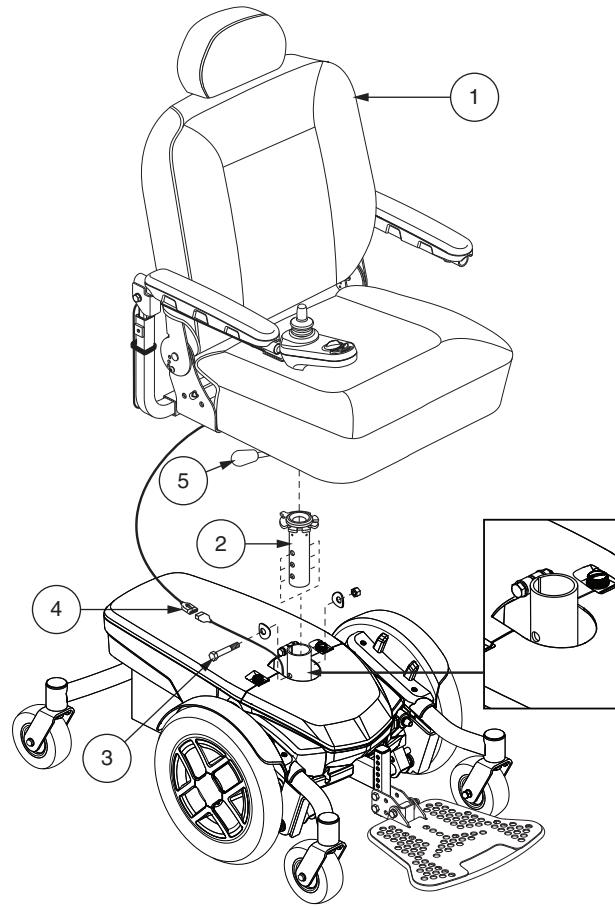

Figure 8. Seat Height Adjustment
3. Disconnect the controller connector from the power base. See **figure 8**.
4. Disengage the seat release lever. See **figure 8**.
6. Loosen the hardware at the rear of the seat post. See **figure 8**.
7. Remove the seat height adjustment bolt, washers, and nut from the seat post. See **figure 8**.